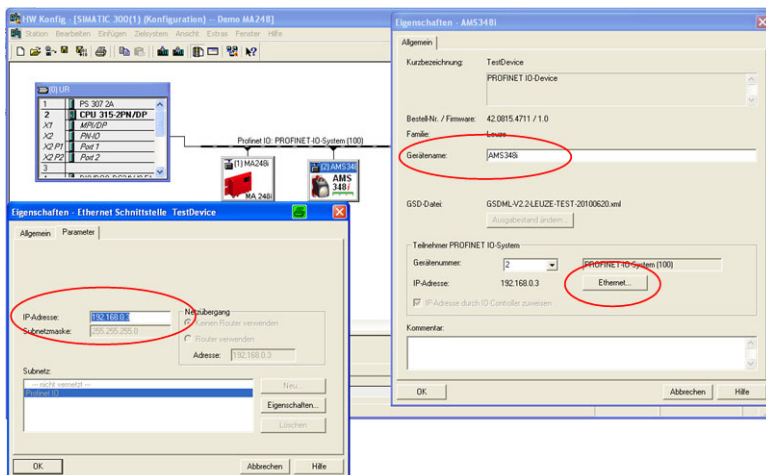

Figure 9.8: Assign unique device name in the properties window
- Assigning the device names to the configured IO devices (see figure 9.8)